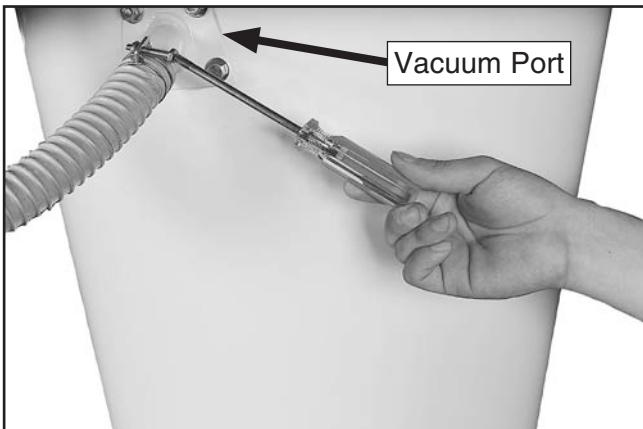

Figure 28. Cyclone vacuum tube and hose attachment.
18. Apply the 3 x 6 x 300mm foam tape to the mating surface of the cyclone vacuum port, then attach it to the cyclone funnel with (4) $5/16$ "-18 x $3/4$ " hex bolts and (4) $5/16$ " flat washers (see **Figure 28**).